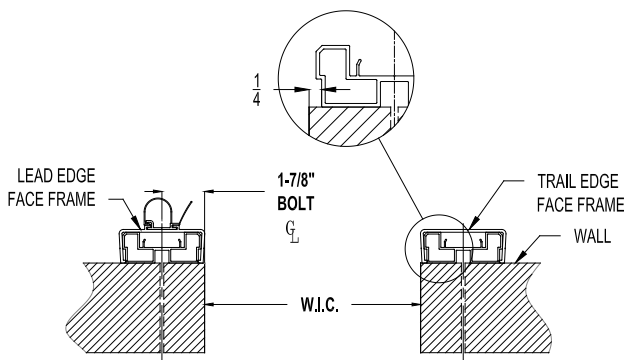

Figure 2: Wall Clip Position – Flat Frame
- 2 Check plumb and square. Shim if necessary (Figure 2). Header and side frames must be on same plane. Make sure operator end is not sagging.